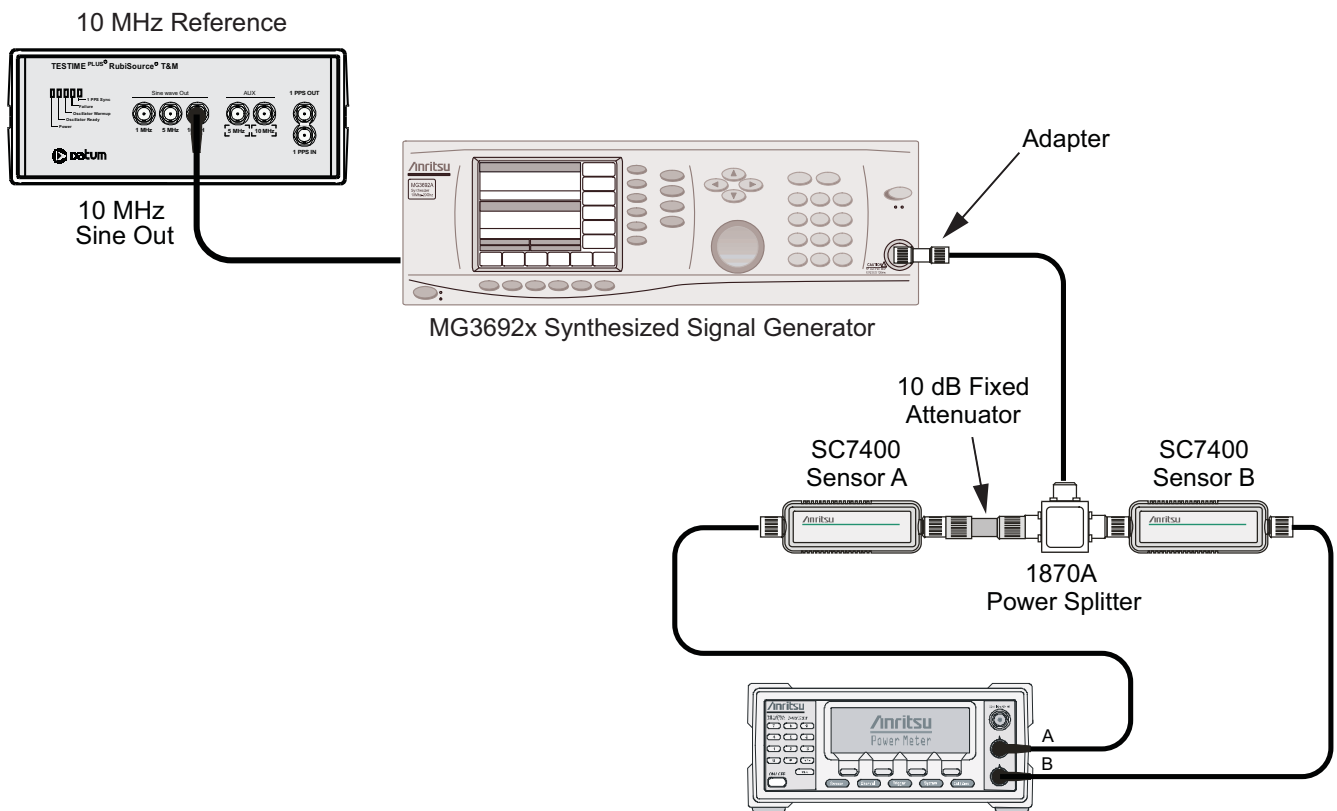

Figure 3-1. Amplitude Accuracy Pretest Setup
6. Install the 10 dB Fixed Attenuator to the other Power Splitter output and then connect Sensor A to the end of the attenuator as shown in Figure 3-1.
6. Install the 10 dB Fixed Attenuator to the other Power Splitter output and then connect Sensor A to the end of the attenuator as shown in Figure 3-1 on page 3-11.